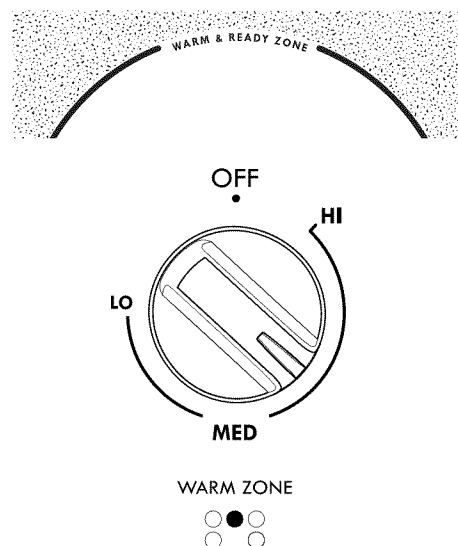

Figure 13: Warm zone element
The purpose of the warmer zone is to keep hot cooked foods at serving temperature. Use the warmer zone feature (See Figure 13) to keep cooked foods hot such as; vegetables, gravies, casseroles, soups, stews, breads, pastries and oven-safe dinner plates.
1. Push in either direction and turn the warmer zone control knob to the desired temperature level (See Figure 13). The temperatures are approximate, and are designated by HI (high), MED (medium) and LO (low). However, the control can be set at any position between HI and LO for different levels of warming.